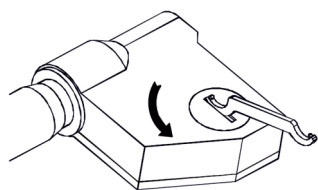

Fig. 1
- » Turn the battery cover 45° counterclockwise using the Q-shaped key (Fig. 1) and then remove it.